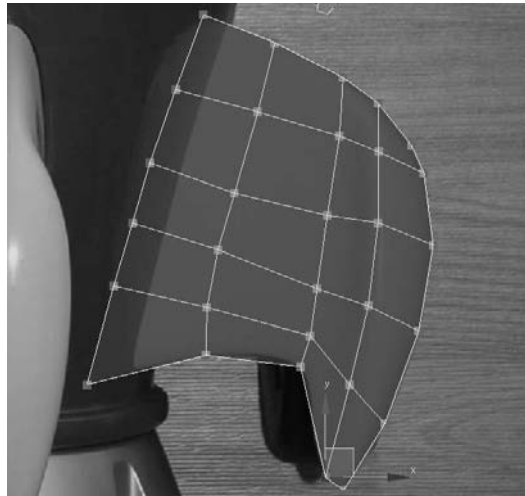

Figure 5.61
4. Using the Top viewport, move the vertices to match the fin in the Top View image plane, as shown in Figure 5.61.